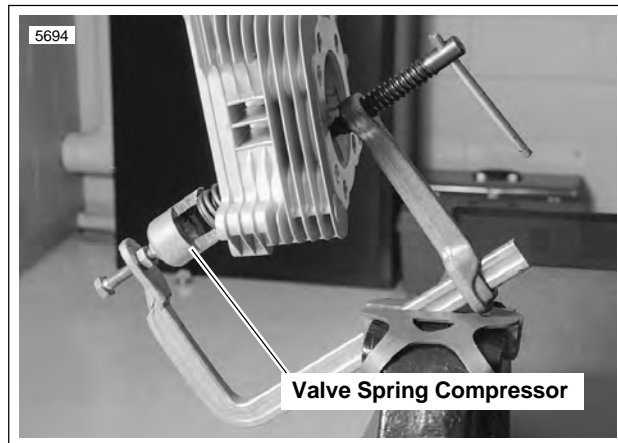

Figure 3-10. Valve Spring Compressor (Part No. HD-34736B)
1. See Figure 3-10. Compress valve springs with VALVE SPRING COMPRESSOR (Part No. HD-34736B).